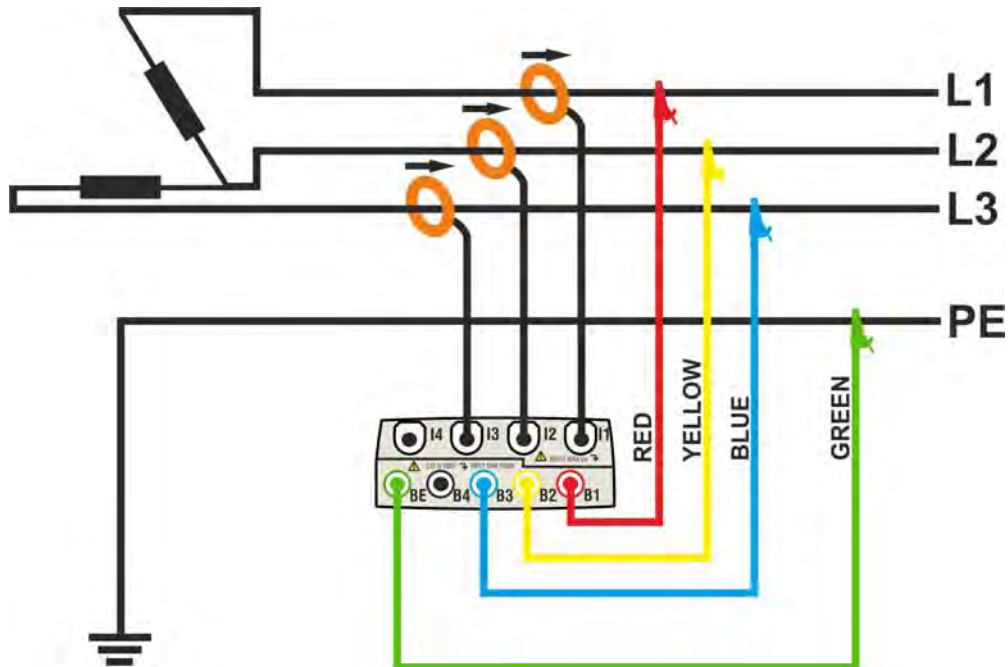

Fig. 125: Meter connection in a three phase 3-wire 3P OD system – ENG\_UK type
2. Connect voltage test leads on Phases L1, L2, L3 and PE cables considering the colours as shown in Fig. 125. **Verify the result “123” at display relative to a correct phase sequence indication** (see § 5.2.1) and perform the corrections if necessary.
3. Connect the transducer current clamps on Phase L1, L2, L3 cables as shown in Fig. 125 respecting the clamp’s arrow direction indicating the current standard sequence from generator to load. **On Real Time Values’ section screens (selecting a 3 wire system preliminarily) always verify the positive value of Active Power and the power factor relative to load which should be normally inductive** before starting a recording. Reverse the clamp by 180 degrees on cables in case of negative readings.